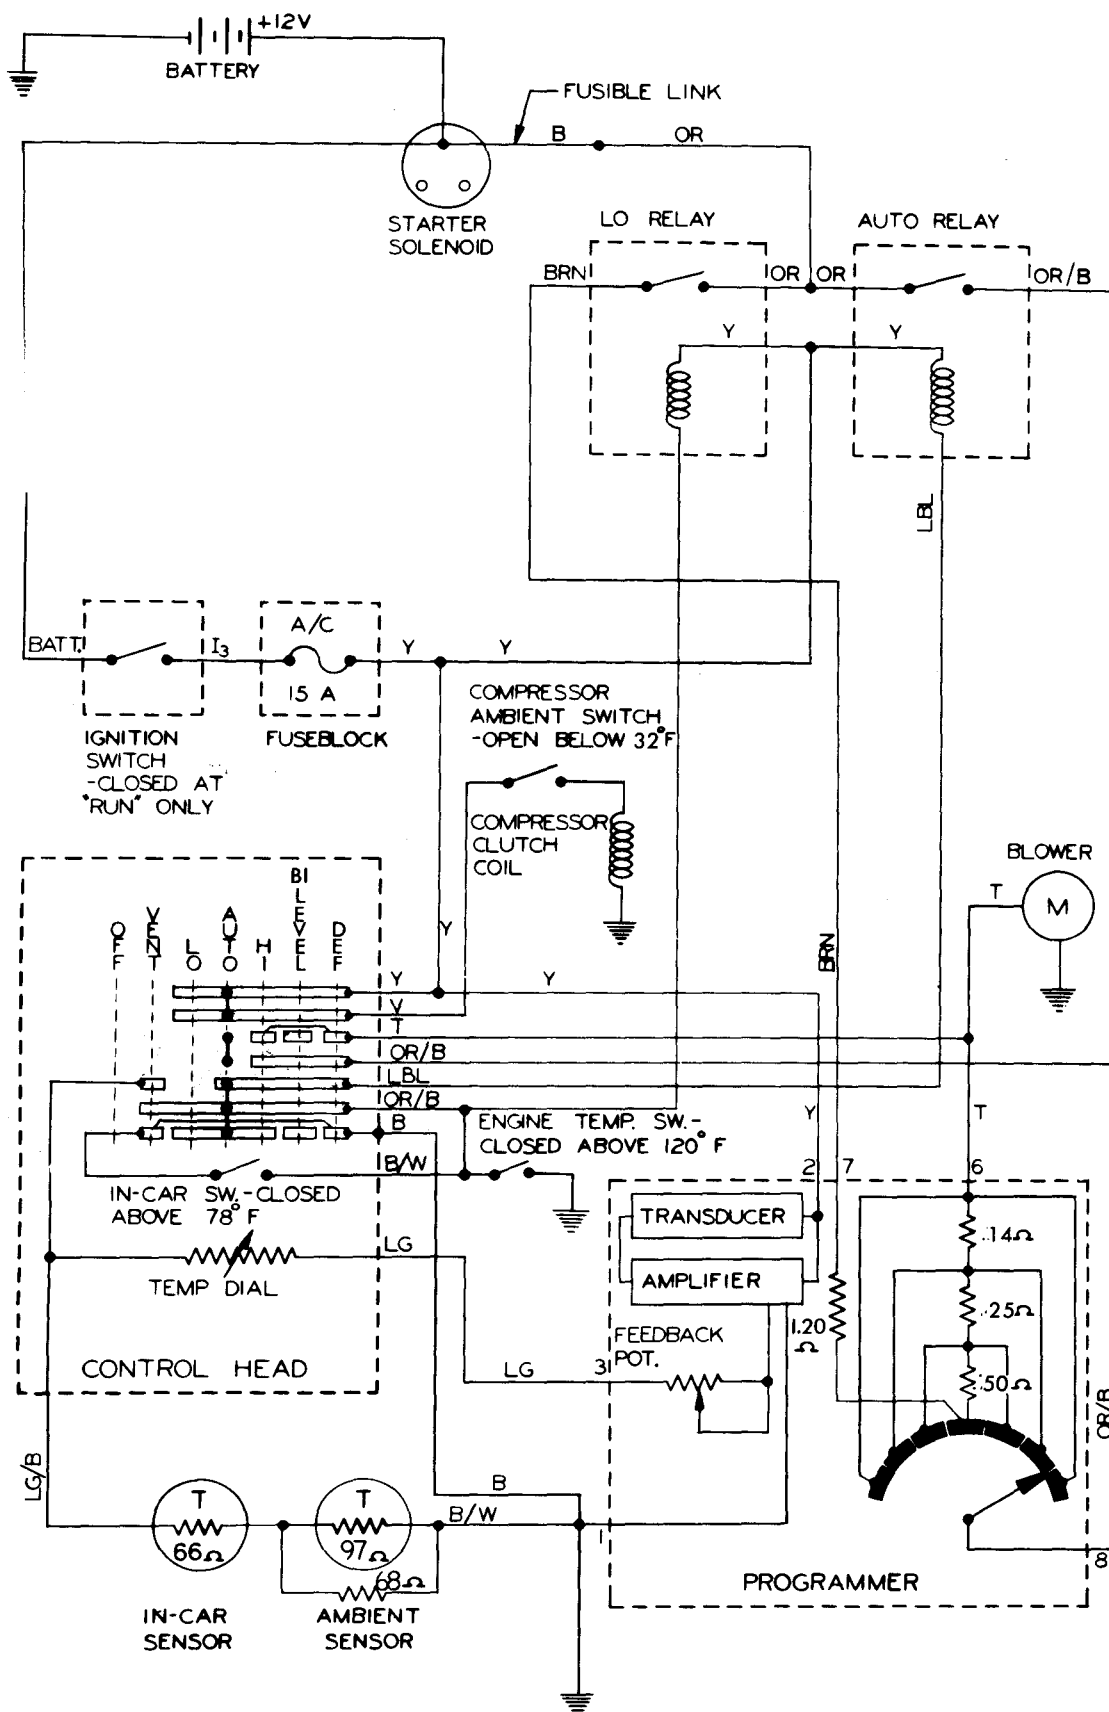

Fig. 1-4 Blower Control Circuit
The components and electrical circuits that make up the blower control circuit are shown in Fig. 1-4. Blower control can be divided into two separate categories, blower turn-on and blower speed control. Blower turn-on is accomplished when a ground path is completed for either the "Lo" relay coil or the "Auto" relay coil. Relay coil grounds are completed by (a) the heater turn-on switch which provides delay for heater water warm-up in winter operation, (b) the in-car switch which provides immediate turn-on in summer operation, or (c)
3. Backed-out terminal or poor connection at six-way connector (located near programmer), at programmer, or at control head. Trace "Auto" blower circuit using electrical wiring diagram, Fig. 1-4 or 1-43.
- Refer to wiring diagram, Fig. 1-4.
3. If problem persists, check wiring continuity in the in-car switch circuit. Refer to the wiring diagram, Fig. 1-4.
8. Open in wiring harness. Refer to electrical circuit diagram, Fig. 1-4.